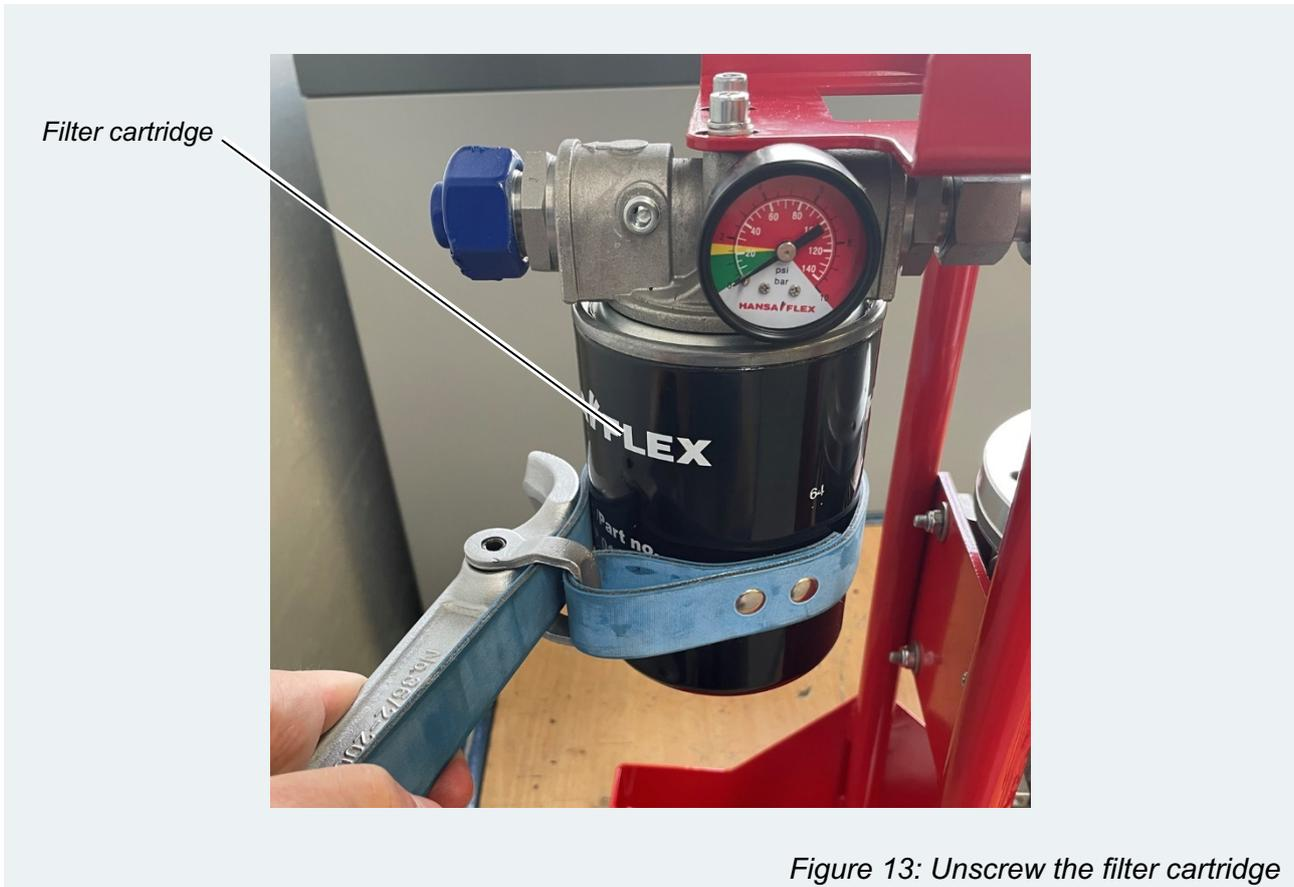

Figure 13: Unscrew the filter cartridge
- ⇒ Unscrew the filter cartridge by hand or using a suitable tool (e.g. a belt spanner) and remove it (see Figure 13).